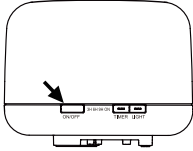

Fig 7
7. Push the ON/OFF button. The power LED turns 'On' and the device will start working. The microscopic salt particles come out of the device through the top opening. **Mist is not very visible and this is normal!** Only a light air stream will be felt coming out of the device. (Fig 7)